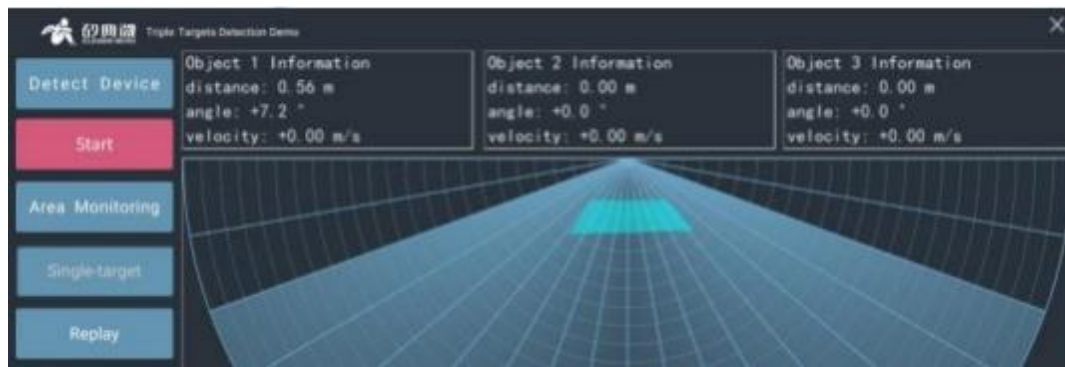
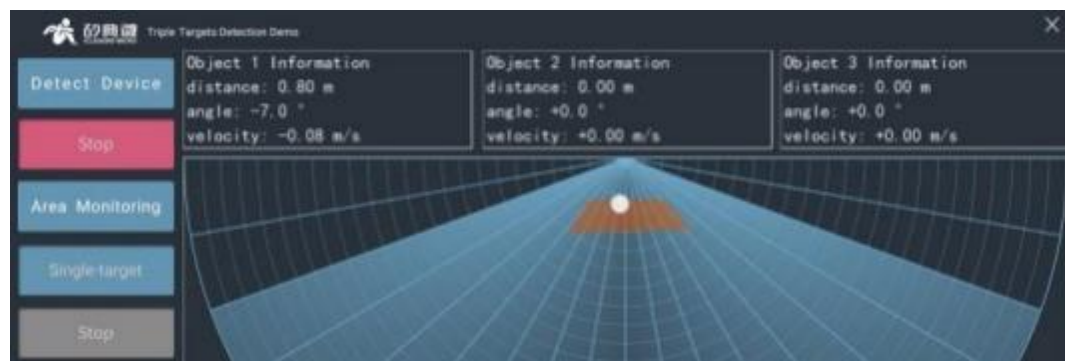
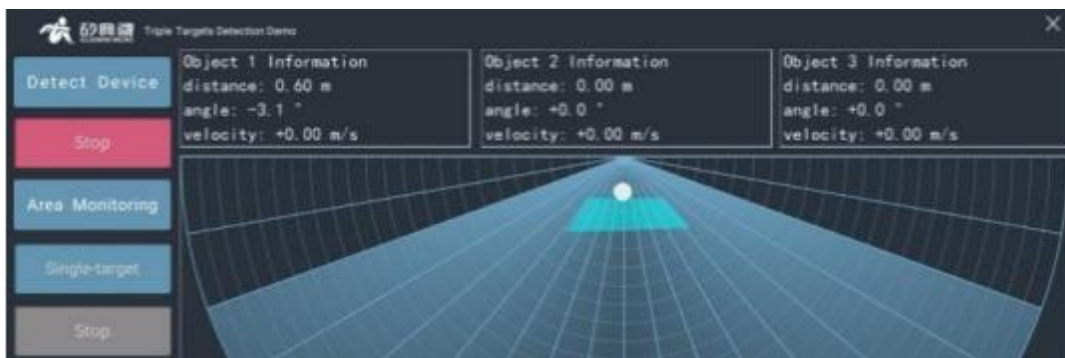

Figure 4-8 Set Monitoring Area
Figure 4-9 Targets in Monitoring Area
Figure 4-10 No Target in Monitoring Area
Step 3: Click the "Add Lighting Area" button on the "Area Monitoring" setting page to start setting the monitoring area: left-click the mouse in the fan-shaped area on the interface to set each vertex of the monitoring area, and right-click the mouse to finish setting the monitoring area. The upper computer tool will connect each vertex into a polygon and display it in the interface according to the sequence of mouse clicks. The area surrounded by the polygon is the monitoring area. Figure 4-8 shows a quadrilateral monitoring area. When someone enters the monitoring area, the background color of the monitoring area will change to "target color"; after the human body leaves the detection area, the color of the area will change back to "no target color", as shown in Figure 4-9 and Figure 4-10;